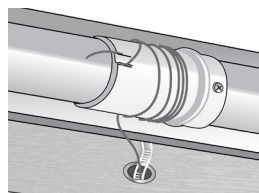

Figure 4: Motor Tube and Spool
1. Check how the cords are being wound onto the spools on the tube located on the shade head rail as the shade lifts and lowers. Make sure there are no snags and the cord is wrapping the same direction around each spool **[Figure 4]**.